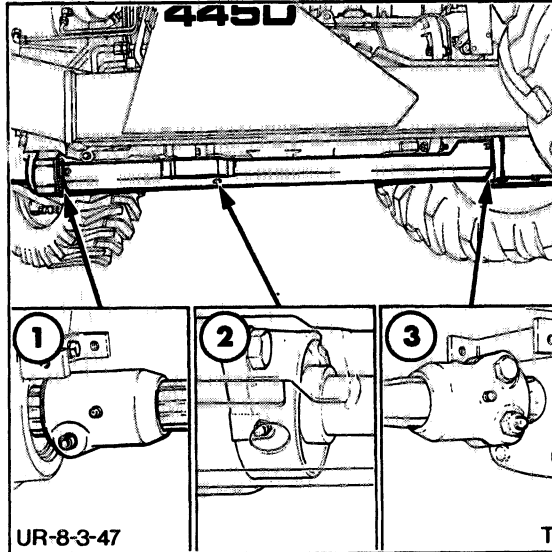

FIGURE 7-123
3. Remove the drive shaft guard, Figure 7-123.